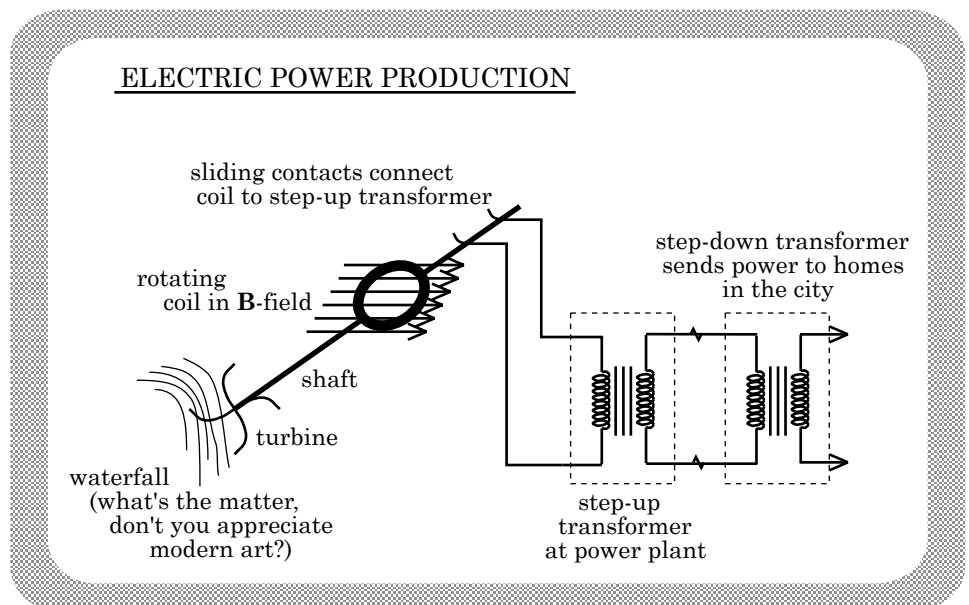

FIGURE 17.20
c.) The entire process is displayed in Figure 17.20. (Oh, look, there *was* a Figure 17.20.)